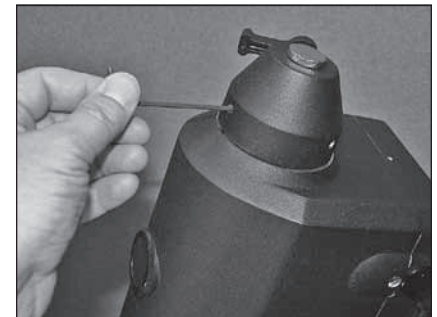

Figure 3. Loosen the three setscrews in the counterweight shaft collar.
2. With the 2.5mm hex key, loosen each of the three setscrews in the counterweight shaft collar 2 or 3 full turns (**Figure 3**).